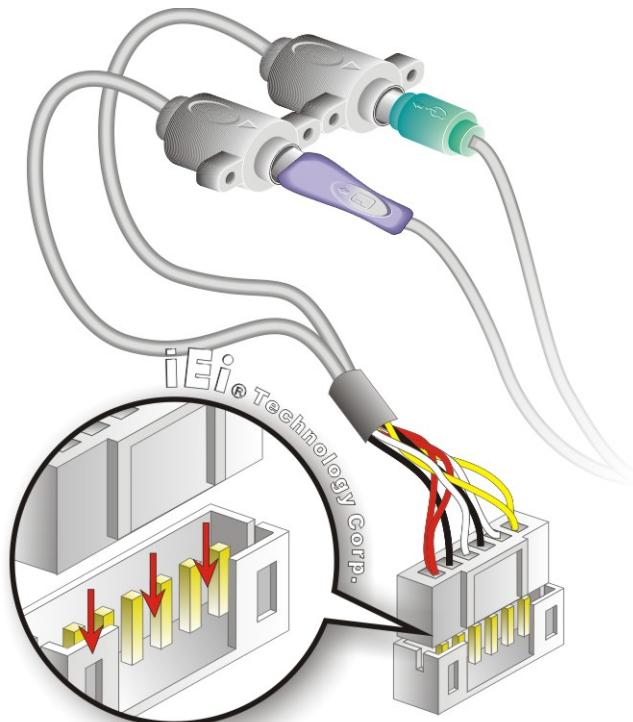

Figure 4-11: Keyboard/mouse Y-cable Connection
Step 2: Align the connectors. Correctly align pin 1 on the cable connector with pin 1 on the KINO-CV-D25501/N26001 keyboard/mouse connector. See Figure 4-11.
Step 3: Insert the cable connectors Once the cable connector is properly aligned with the keyboard/mouse connector on the KINO-CV-D25501/N26001, connect the cable connector to the on-board connectors. See Figure 4-11.